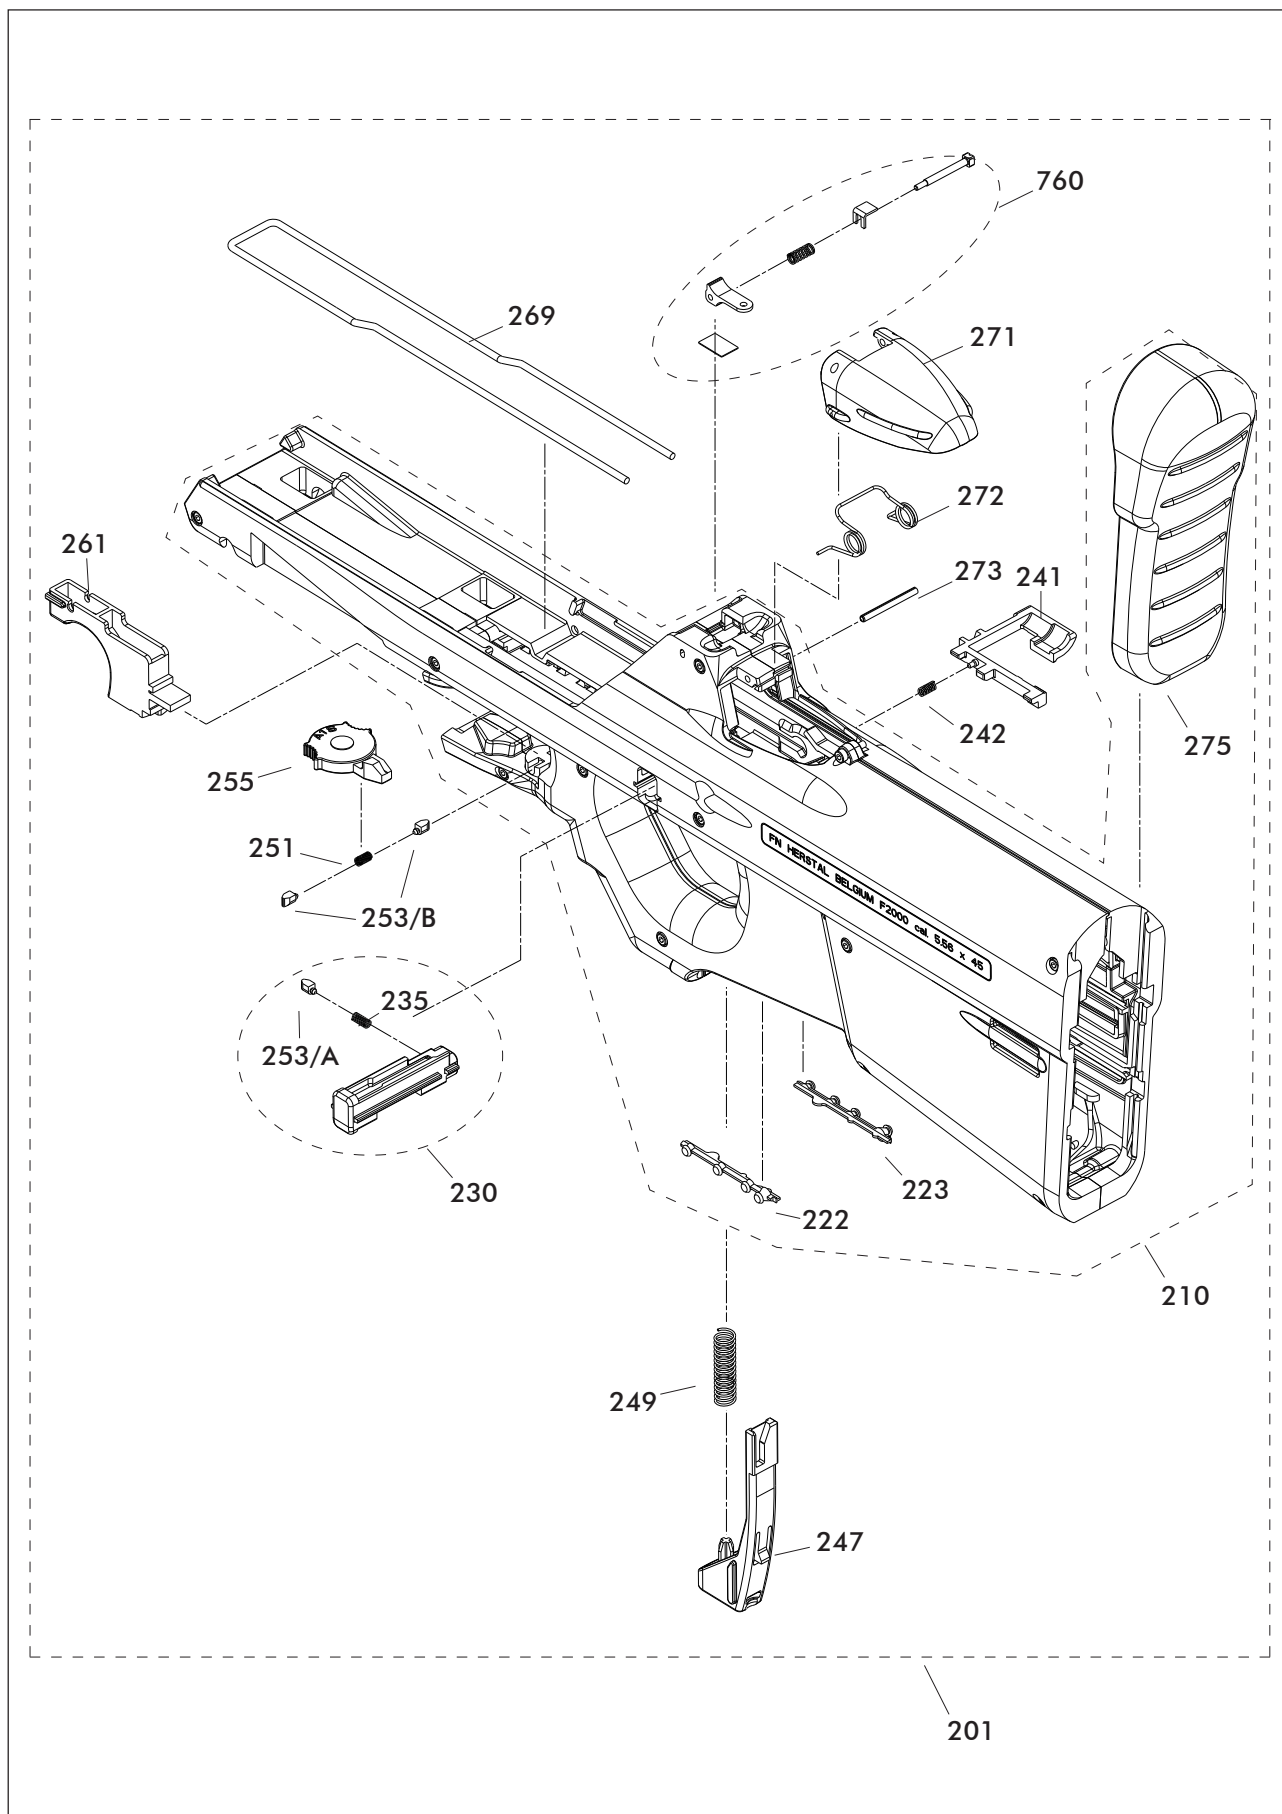

Fig. 2.c - Receiver assembly (201)
The handle, cocking group (140) is used to pull the moving parts assembly (410 - see figure 2.e) to the rear in order to cock the weapon.
- The rail assembly (175) located between the pair of side plates (121).
**2.2. PARTS LISTS (CONTINUED)****2.2.2. Receiver assembly****(a) List of parts (Fig. 2.c)**